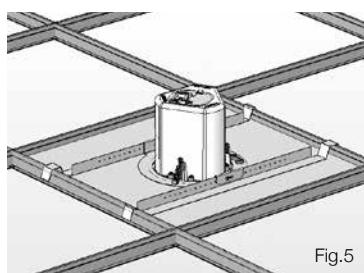

Fig.5
5. Slide the tile panel back into the suspended ceiling. The tile bridge ends will catch over the railings, supporting the weight of the speaker. (Fig.5)